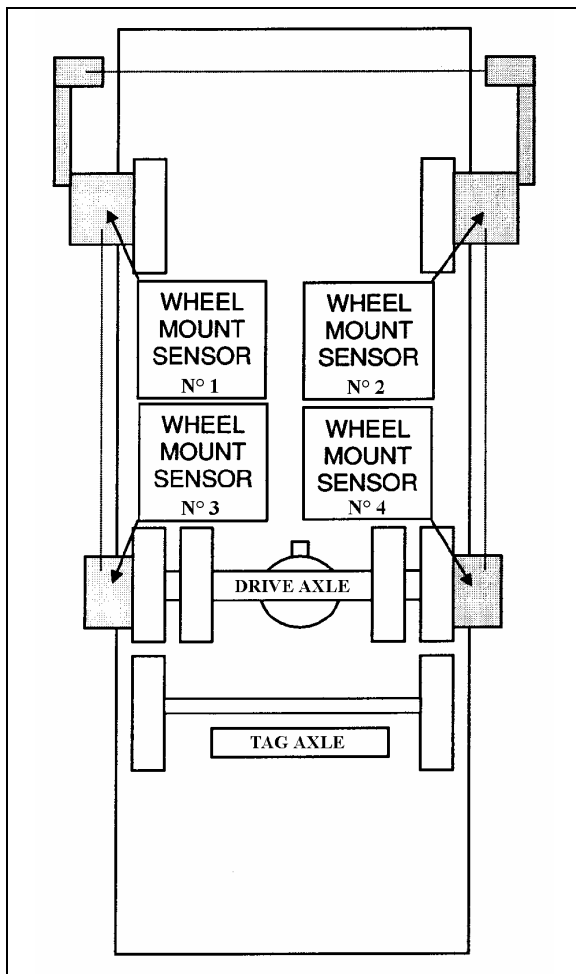

FIGURE 7: FRONT & DRIVE AXLE ALIGNMENT 11025
- With the system installed as in figure 7, adjust drive axle according to specifications' chart below.
- Install wheel mount sensors on front end and drive axle wheels (fig. 7).
See reference numbers on wheel mount sensors (fig.7).